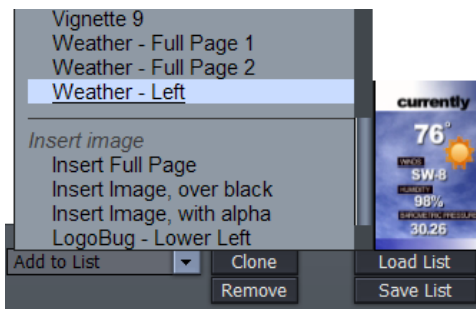

Figure 9- Add to List
5. Use the **Add to List** drop-down to add the template named **Weather – Left** to the Text playlist (Figure 9).